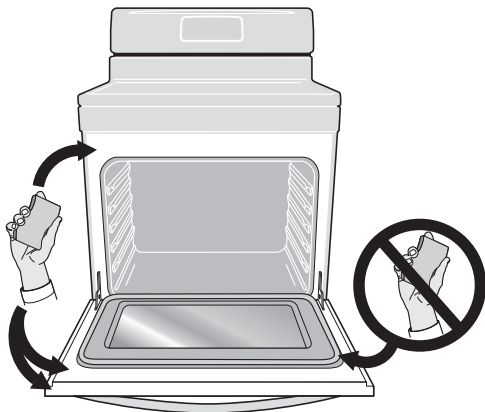

Figure 5: Areas to hand clean and areas to avoid
- Clean any soil from the oven frame, the door liner outside the oven door gasket and the small area at the front center of the oven bottom. These areas heat sufficiently to burn soil on. Clean with soap and water. (Figure 5)